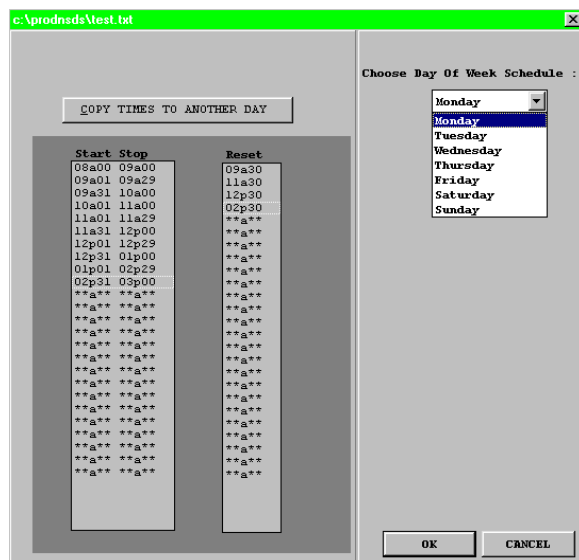

Figure 4 - Schedule File Details.
4. Make the changes to the files Start, Stop and Reset times in 12a34 or 12p34 format (Fig.4)